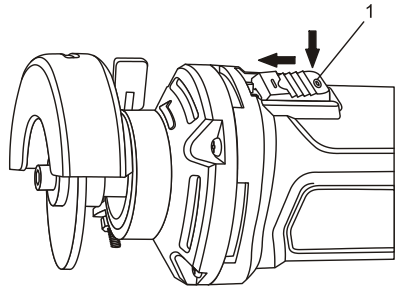

Fig. 4
2. Press downward on the rear of the ON/OFF switch with your thumb (Fig. 4).